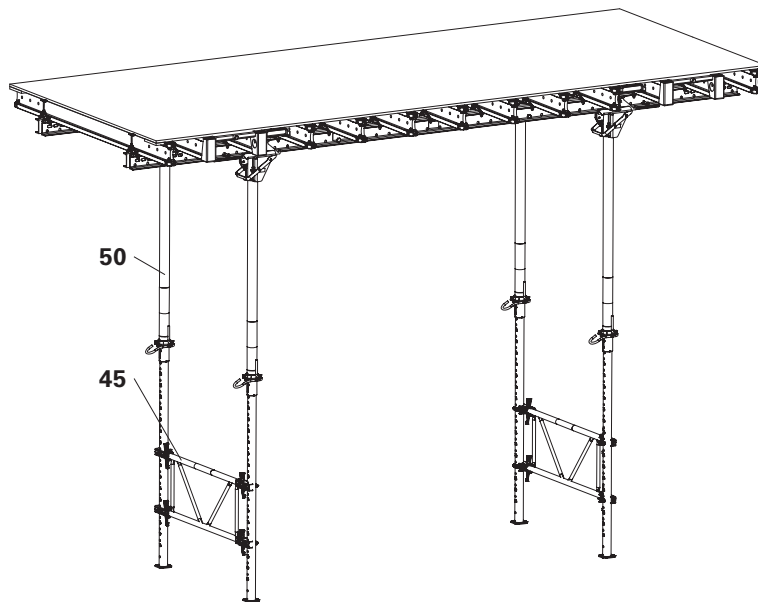

Fig. A5.01b
In order to increase the stability, the slab props are braced, e.g. with PEP Frames PRK (45) or diagonal bracing. The slab tables can also be connected to each other, see Section A6. (Fig. A5.01b)